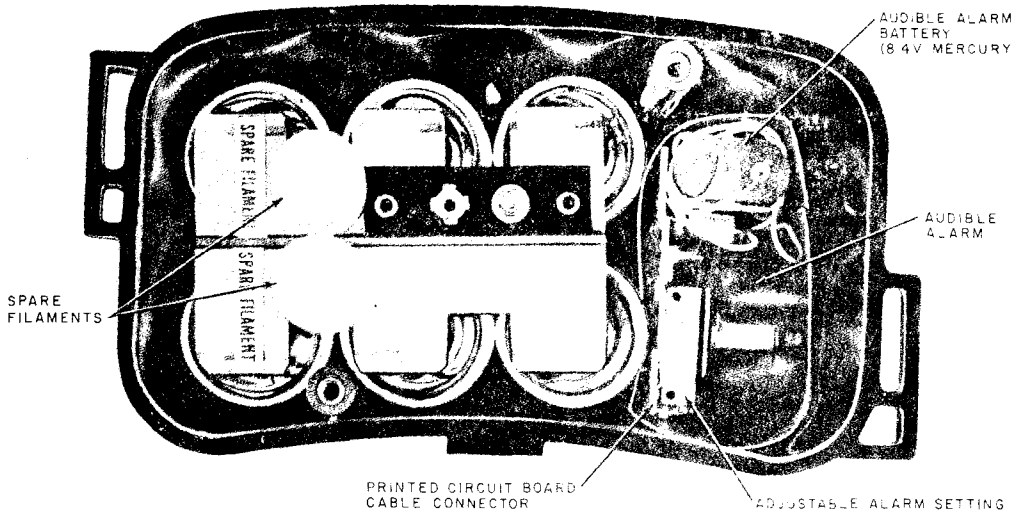

Fig. 3—Top View of Battery Compartment Showing Location of Audible Alarm
2.04 The alarm is mounted in the battery case of the gas indicator in place of two of the eight type D flashlight batteries normally used (Fig. 3). The alarm circuit is separate from the gas detection circuit and does not affect the meter reading. Power to the alarm circuit is supplied by a mercury battery (Eveready 216 or equivalent) and is automatically tested whenever the gas detector is in the voltage check position. The alarm is activated by a latching type fast acting detector circuit which cannot be reset until the meter needle is below the alarm set point. It can then be reset by turning the instrument OFF and then ON. The alarm point is set at 10 percent of the lower flammability limit by the manufacturer and should not be changed in the field. The modified F Gas Indicator is available on an optional basis. Existing F Gas Indicators can only be modified by the manufacturer to accept this added feature.